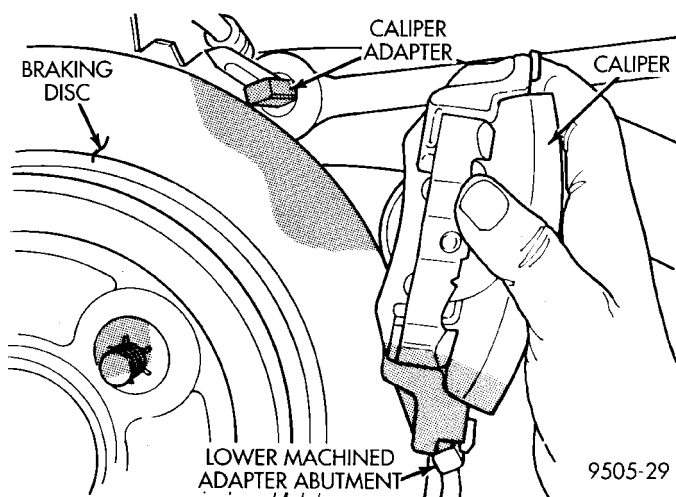

Fig. 69 Removing Caliper Assembly From Adapter
(4) Remove caliper assembly from adapter and rotor by first rotating top of caliper assembly away from adapter, and then lifting caliper assembly off lower machined abutment on adapter (Fig. 69).
removal procedure (Fig. 69). Make sure that the caliper guide pin bolts, bushings and sleeves are clear of the adapter bosses.